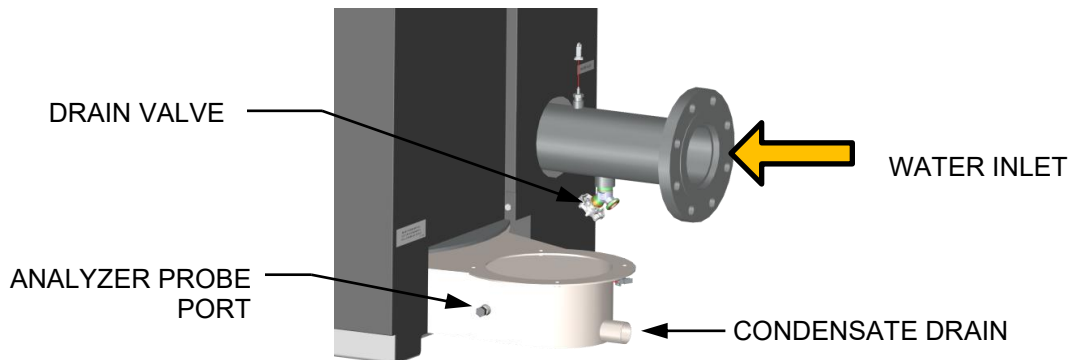

Figure 4-2: Analyzer Probe Port Location (CFR1500 shown)
CFR units contain a 1/4" NPT port on the side of the exhaust manifold, as shown in Figure 4-2. Prepare
1. Refer to Figure 4-2 and remove the 1/4" NPT plug from the exhaust manifold.
16. With the valve position still at 100%, insert the combustion analyzer probe into the exhaust manifold probe opening (see Figure 4-2 in Section 4.2.3) and allow enough time for the combustion analyzer reading to stabilize.
20. Compare the measured nitrogen oxide (NOx) and carbon monoxide (CO) readings to the **Target** values in Table 4-2 (shown as a reference only). If you are not in a "NOx-limited" area and/or do not have a NOx measurement in your analyzer, set the O₂ to the value in the **Standard NOx** column.